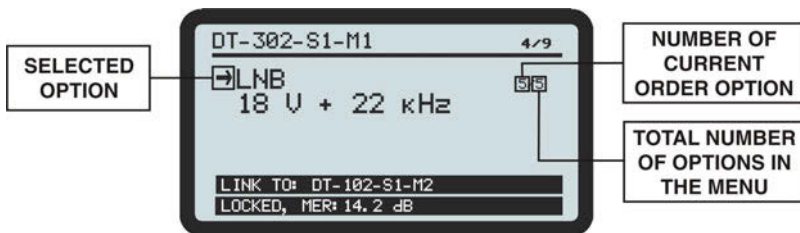

Figure 13.- Changing a parameter.
- 5.- An arrow on the left-side of the selected option, means that you are into the menu (Fig. 13.-). Now you can change the value displayed on the screen or move to another menu.